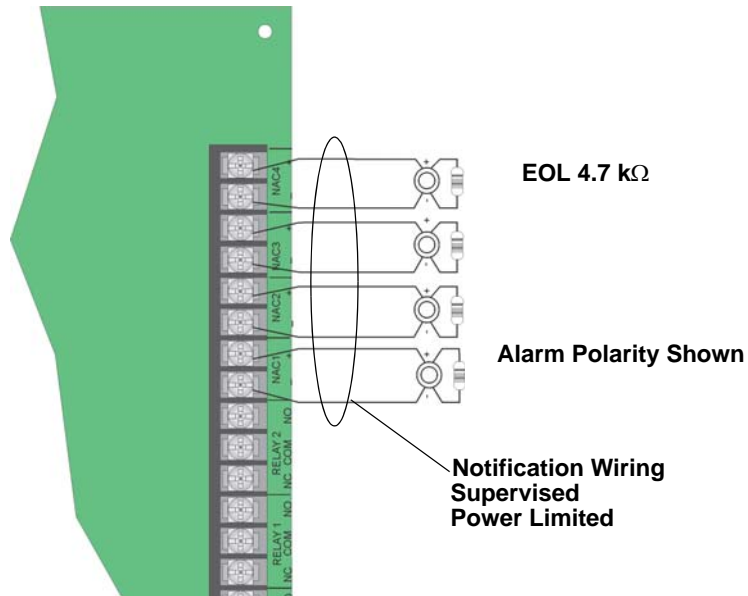

Figure 4-40 Class B Notification Appliance Circuit Wiring
1. Wire Class B Notification appliances as shown in Figure 4-40.